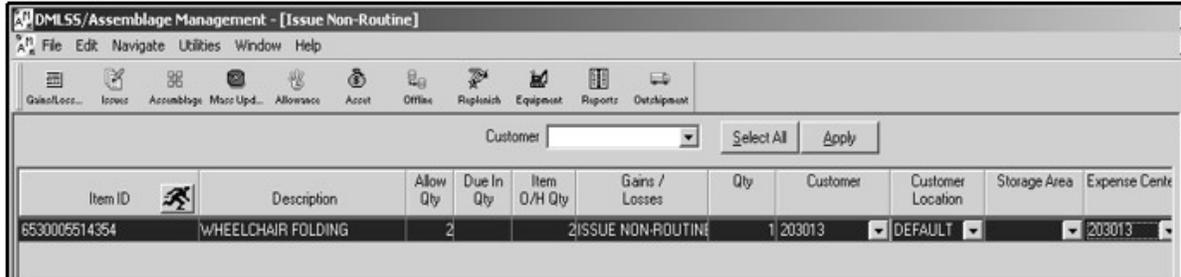
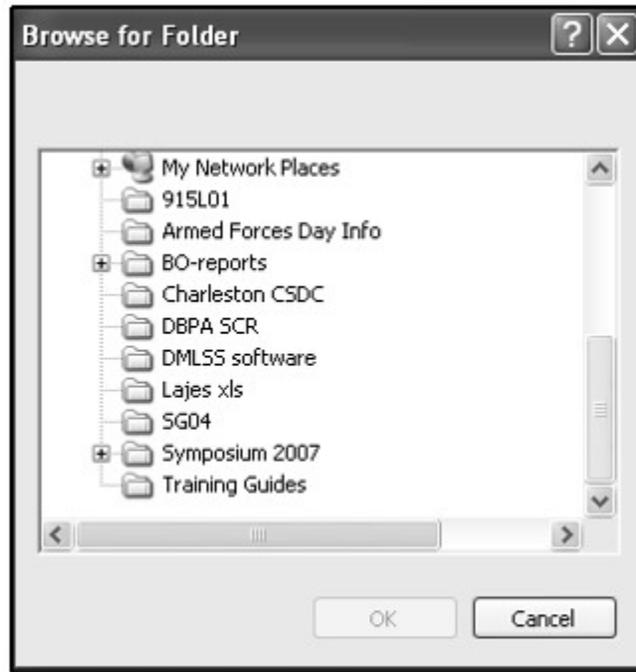

Figure 17. Issue Non-Routine Window
Figure 21. Assemblage Loss Browse for Folder
(1) The Issue Non-Routine function in AM is used to issue WRM assets to a selected customer with a valid requirement. All issues from WRM should be scrutinized. Verify questionable issue requests with proper approval authority prior to processing.
(2) Select “Issues Non-Routine” from the “Navigate” dropdown menu or select on the “Issues” icon located on the horizontal toolbar to access this function. In the “Issues Non-Routine Search” criteria window, identify at a minimum the ORG and assemblage in which the ensuing issues are going to be processed. If known at this time, the search criteria can be minimized by entering the Item ID, location, and/or sub-location of the item(s) being issued.
(3) Utilize the “Delete Location Record when Qty is Zero” function to determine whether DMLSS should remove a location record when the O/H Qty is reduced to zero. If “No” is selected, a shell record remains in the system even though the O/H Qty is zero. If “Yes” is selected, the location record is removed from the assemblage when the O/H Qty is zero.
(4) Select the “Search” button once all search criteria is identified. All assemblage data records matching the search criteria are displayed in the “Issues Non-Routine” window. Only two fields, “Customer” and “Qty”, require data entry. The customer ID can be applied to a single location record or to multiple location records using the “Apply” tool located at the top of the window.
(5) To process a single issue, highlight the applicable location record, choose the customer ID from the dropdown menu, enter the issue Qty, and select “Save” to process the issue (Figure 17).
6. Create Local Folder. In the “Browse for Folder” window (Figure 21), identify a local folder in which the 21 assemblage shipment files can be stored. These files should be stored to a CD, usually D: drive. Select “OK” to save the data files. If the “Archive” indicator was checked, save the files according to the explanation provided in paragraph q and Figure 17